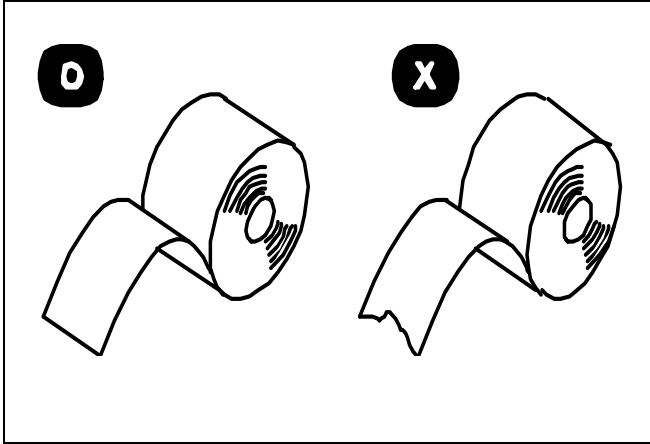

Figure 3-7. Preparing Paper for Insertion
1. Using a new roll of paper, unroll the paper and cut the end as shown in Figure 3-7.